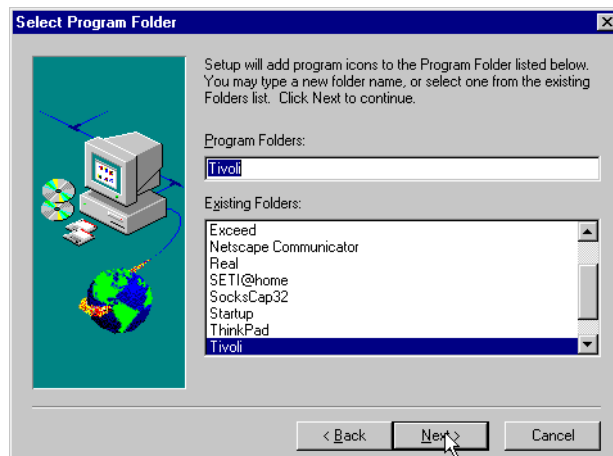

Figure 26. Select Program Folder
18. Next, select the Program Group as shown in Figure 26.